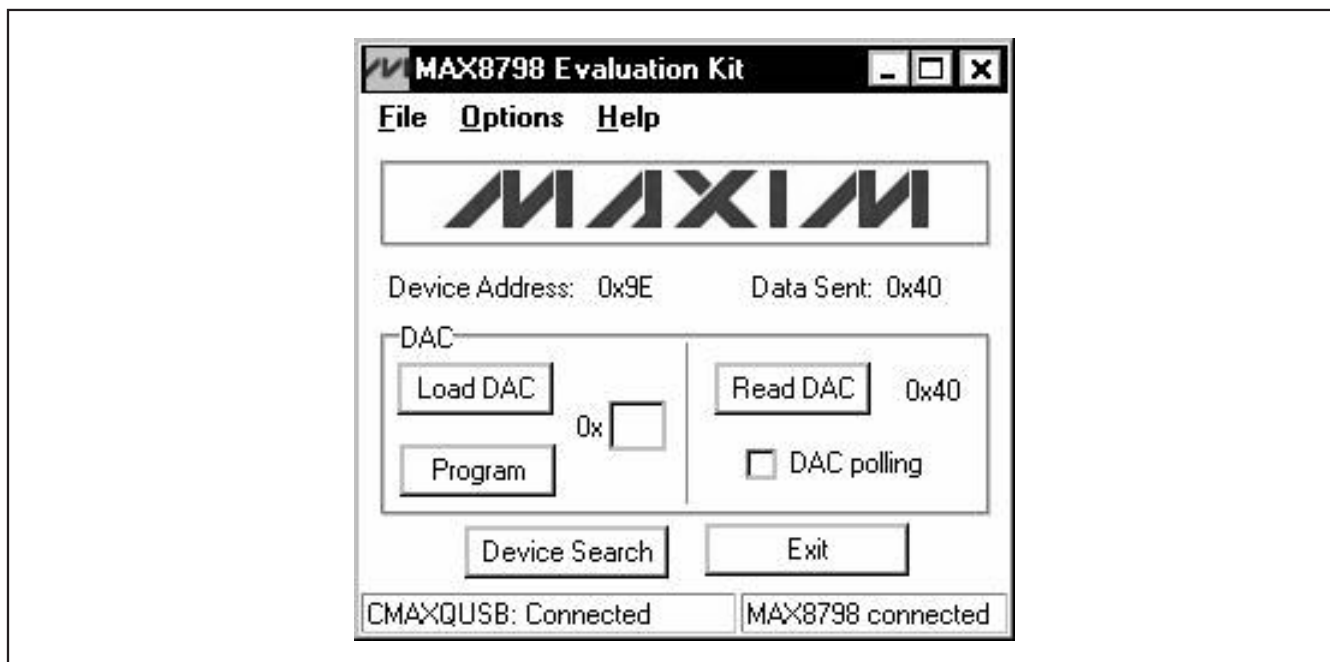
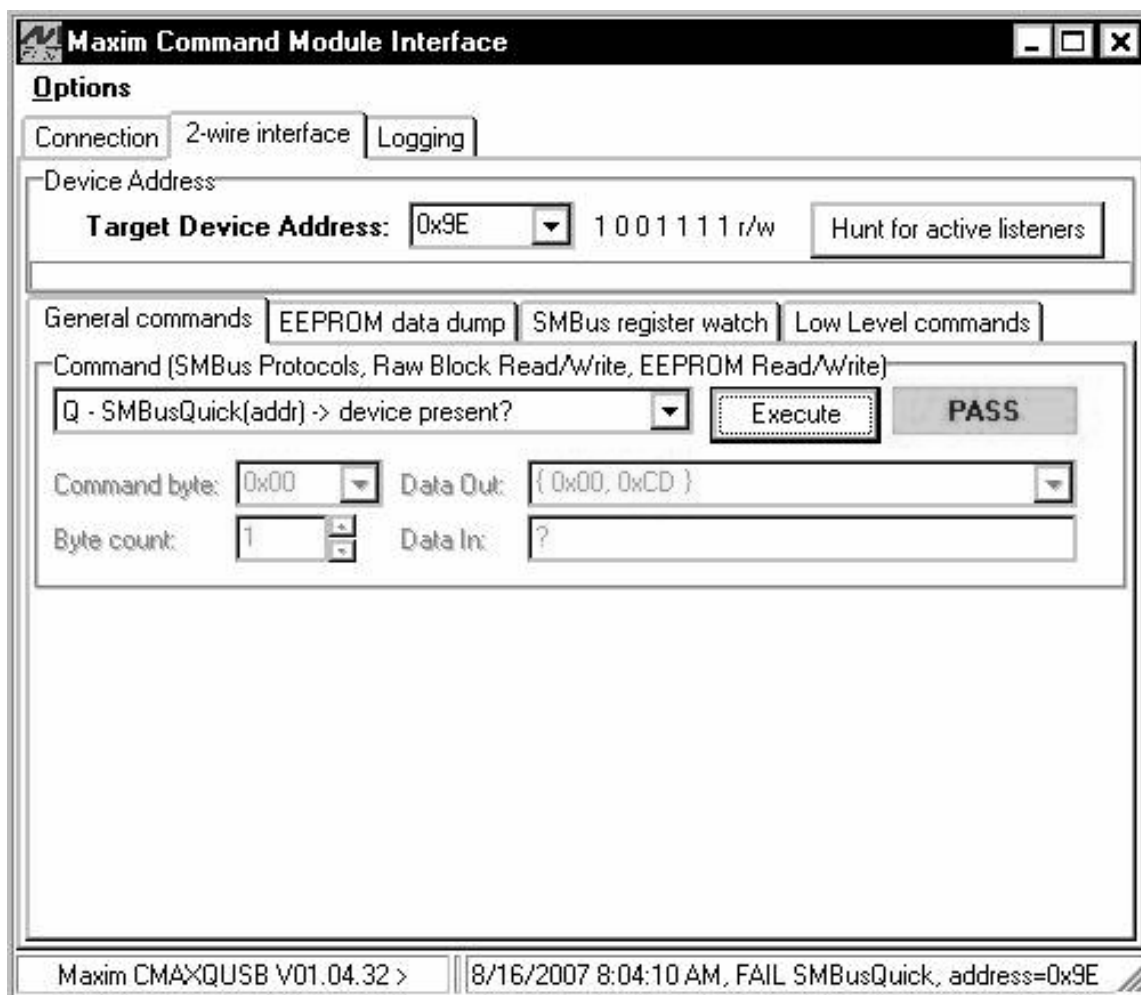

Figure 1. MAX8798 EV Kit Software Main Window
Figure 2. Command Module Interface Window
- 9) Normal device operation is verified when **MAX8798 connected** is displayed in the **status bar** on the MAX8798 EV kit main window (Figure 1).
DAC setting into the **DAC** edit box. The DAC setting can be set from 0x00 (VCOM_{MAX}) to 0x7F (VCOM_{MIN}). The DAC setting is written to the device by pressing the **Load DAC** button (Figure 1).
There are two methods for communicating with the MAX8798: through the MAX8798 EV kit software main window (Figure 1), or through the interface window available by selecting the **Options | Interface** menu item from the menu bar. The Maxim command module interface window (Figure 2) includes a **2-wire interface** tab that allows for execution of the **SMBusSendByte()**, **SMBusReceiveByte()**, and **SMBusQuick()** commands. See Table 3 for details regarding SMBus commands.
The **Command byte** combo box accepts numeric data in binary, decimal, or hexadecimal. Hexadecimal numbers should be prefixed by \$ or 0x. Binary numbers must be exactly eight digits. See Figure 2 for an illustration of this tool.